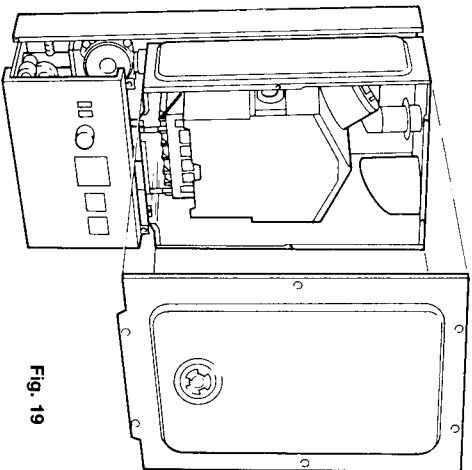

Fig. 19
8.5 ROOM SEALED CHAMBER FRONT COVER (including Viewing Window) Part No 5957 Refer to fig 19
8.5.2 Remove roomsealed front cover plate by releasing six screws (fig 19) and easing cover off. The screws are not captive. inspect gasket for damage. If damaged, replace.